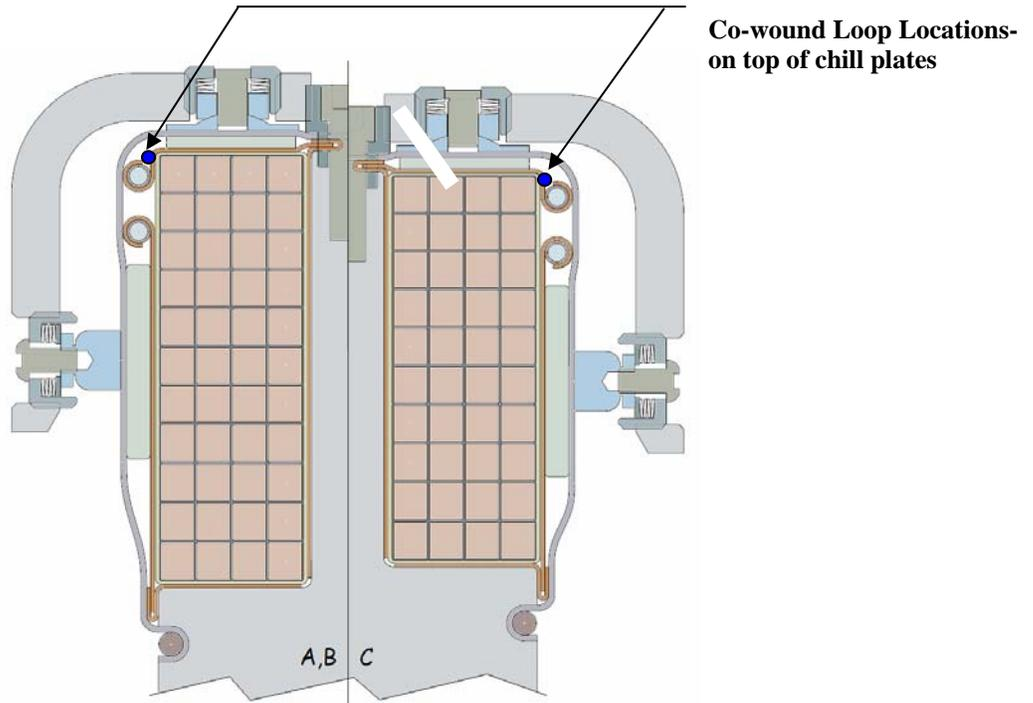

Figure 37-Diagnostic Loops
6.37.1 Diagnostic co-wound loops are to be positioned on the outside surface of the chill plates, just above the upper cooling tube as identified in Figure 37-Diagnostic Loops. Actual position will be determined by NCSX drawings and the Diagnostic representative.